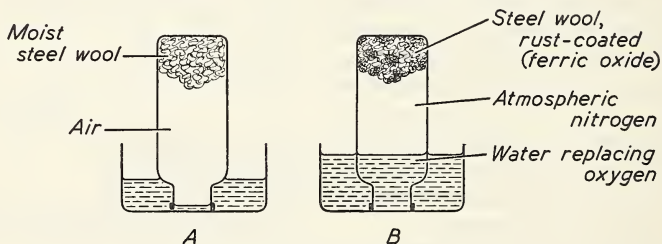

Fig. 29. The rusting of iron in air.
1. Degrease some steel wool by dipping it several times in gasoline. After the gasoline has evaporated, moisten the steel wool with water and push it into a large-mouth bottle (Fig. 29). Invert the bottle in a dish of water and allow it to stand for several days. Record observations from time to time.